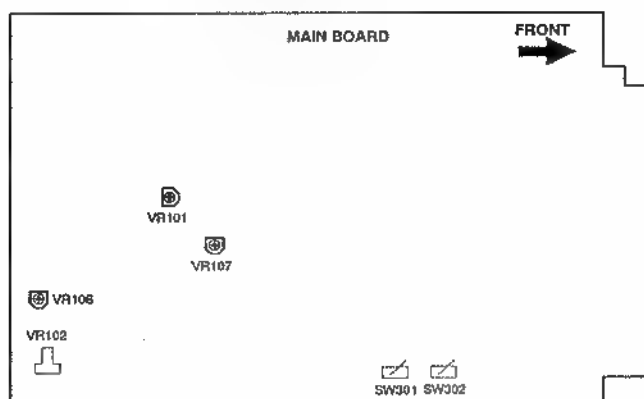

Figure 4-1 Location of on Main board
1. Input ■ cross hatch pattern in 93.75kHz (1600X1200) mode and adjust VR101 on the main board (see figure 4-1 for approximate location) so the high voltage is in the range 28kV~30kV the set will shut down.
Input a raster pattern (video OFF) in primary mode and push the external brightness control button to maximum. Adjust VR102 (see Figure 4-1 for approximate location) so that the voltage of G1 read on a digital multimeter is -45V±1.
3. Before carrying out white balance adjustment, make sure that the VR106 (see Figure 4-1 for approximate location) position shall be turn counterclockwise to the end (ABL no action).
4. Before carrying out white balance adjustment, make sure that the internal contrast VR107 (see Figure 4-1 for approximate location) shall be turn to the center position.